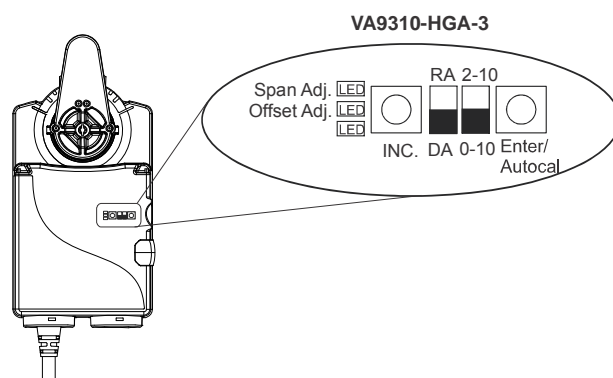

Figure 14: DIP Switches and LEDs Placement
IMPORTANT: When using the VA9310-HGA-3 actuator in floating mode, verify that the DIP switch is positioned on the 2 to 10 VDC option. This setting ensures compatibility with the controller's triac output exhibiting voltage leakage. See Figure 14 for DIP switch placement.
To complete the auto calibration process, press **Enter/Autocal** until all three LEDs are on. See Figure 14 for viewing the DIP switches and LEDs.
1. Set DIP switch one and two before proceeding. See Figure 14 for DIP switch placement.